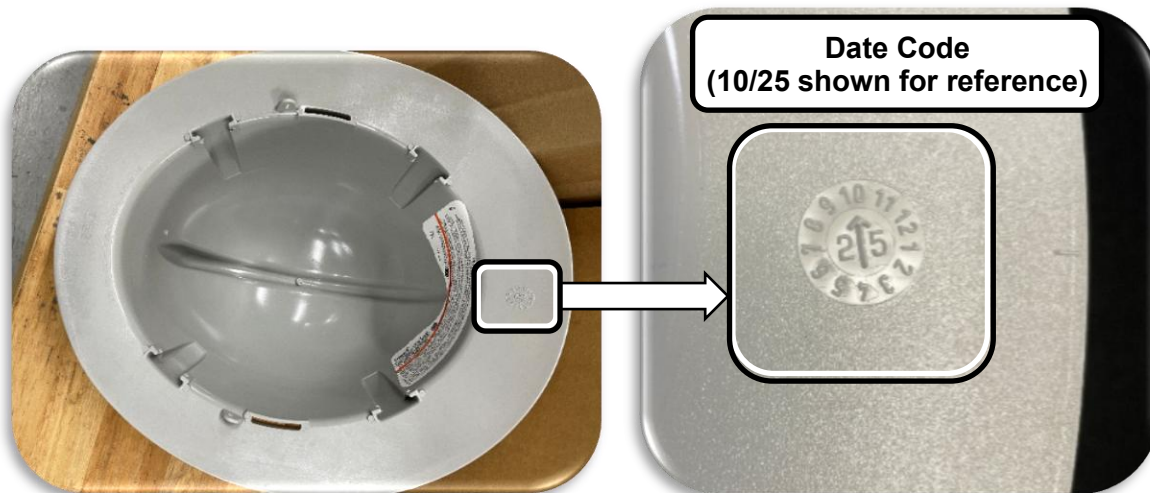

Figure 1: Date Code (underside of brim)
2. Locate the date code on the underside of the shell's brim (figure 1)